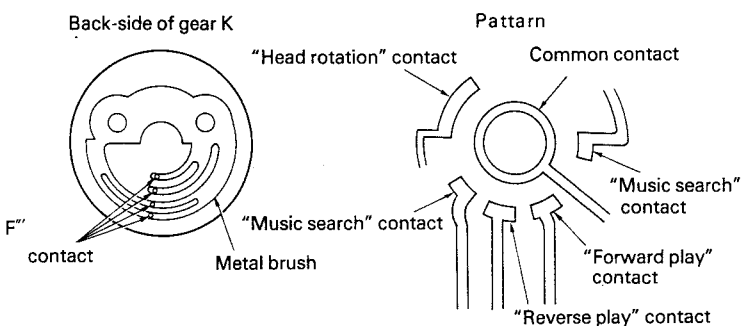

Fig. 16-6
- Pin "B" engages with the arm "E" oval opening and rotates arm "E". The arm "E" sector gear is engaged with pin "C" and this turns the head. The head rotation pattern (Fig. 16-6) performs this operation inside a certain angle.
- After the head base goes beyond the MS pattern (Fig. 16-6) position, the arm "F", "F" part pushes the pinch roller unit pinch spring and presses the pinch roller down onto the capstan. (Fig. 17)